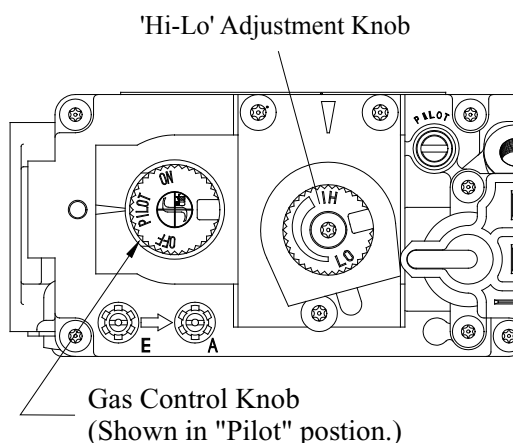

Figure 32. 'Hi-Lo' Adjustment on the H-Series DL's gas valve.
The H-Series DL is equipped with an adjustable burner, allowing you to raise or lower the flames. To adjust the flames, locate the black knob marked 'Hi-Lo', in the centre of the gas control valve (See Figure 32). The front burners are not adjustable.
- An inspection of the gas valve, gas components, and pilot flame. For your convenience a 1/8" manifold pressure tap is supplied on the gas valve for a test gauge connection. See Figure 32.